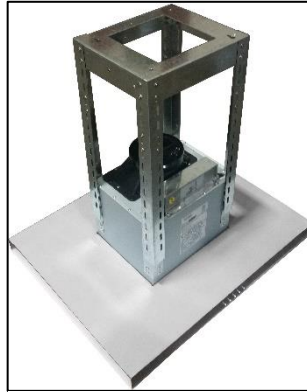

Figure 4
- Attach the lower telescopic stack to the hood motor box using the 4mm x 8mm screws and the round screw washers. Then attach the upper telescopic stack to the lower telescopic stack. Adjust the height of the stack according to your desired height. The end result should be as shown on Figure 4.